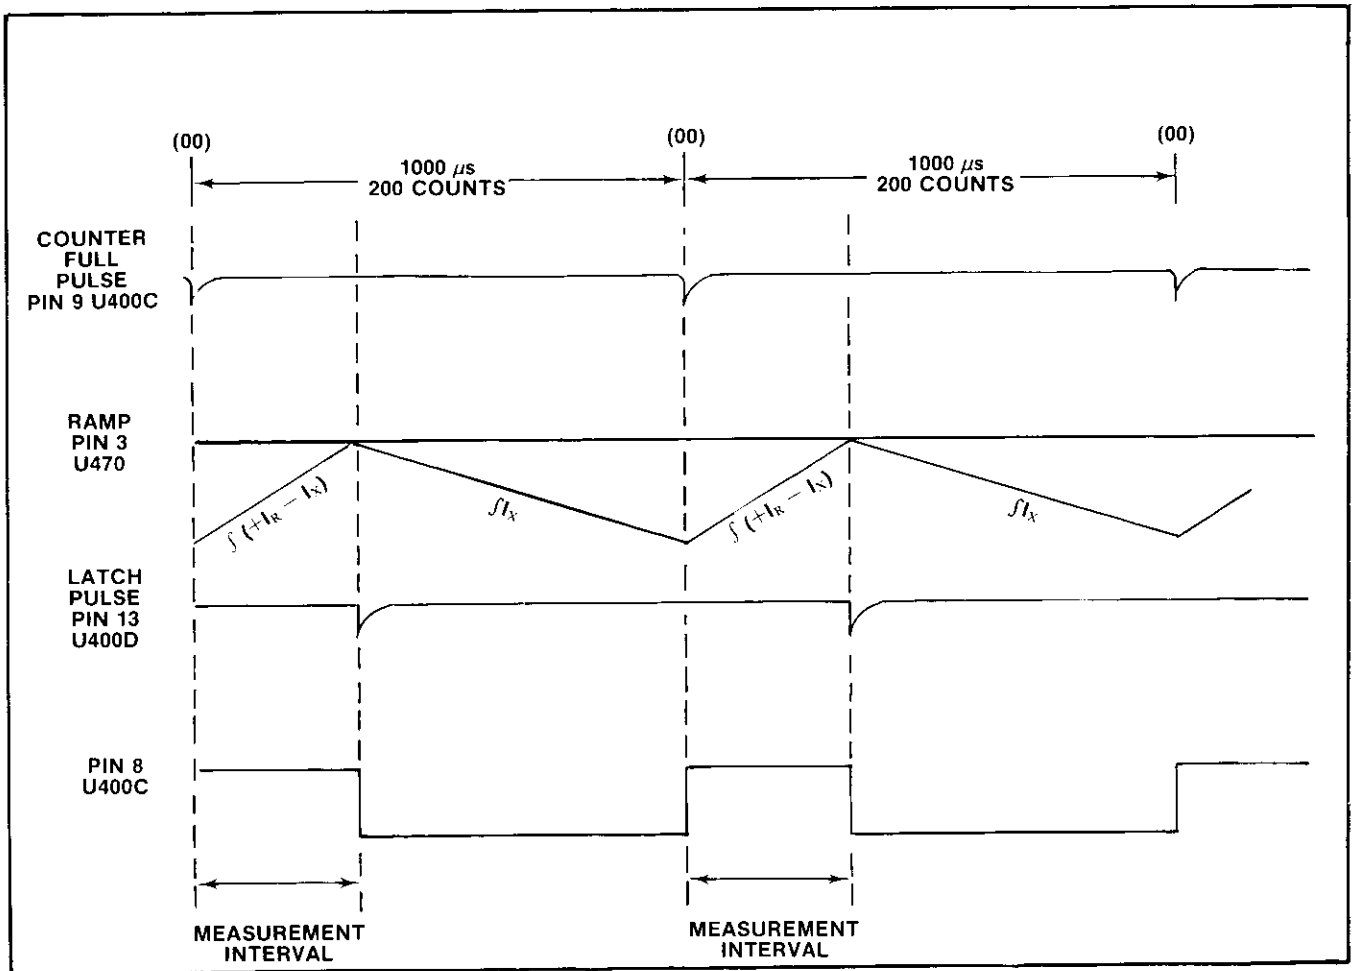

Fig. 2-1. DVM timing diagram for a negative input to the integrator U460.
The system contains two reference current sources; a +Ir source from the collector of Q415, and a -Ir source from the collector of Q440. Only one of these current sources is switched on at a given time, dependent on the polarity of the voltage change on the 100-volt bus. For a ramp that is negative, pin 5 of U400B is set to a high and pin 1 of U400A is set to a low. Pins 2 and 4 of these NAND gates connect to a common control line, and while the counter is counting up to a count of 200 (00), pin 8 of U400C is at a low level. During the first ramp period, the output levels of U400A and U400B are high and both reference current sources are cut off. See Fig. 2-1.